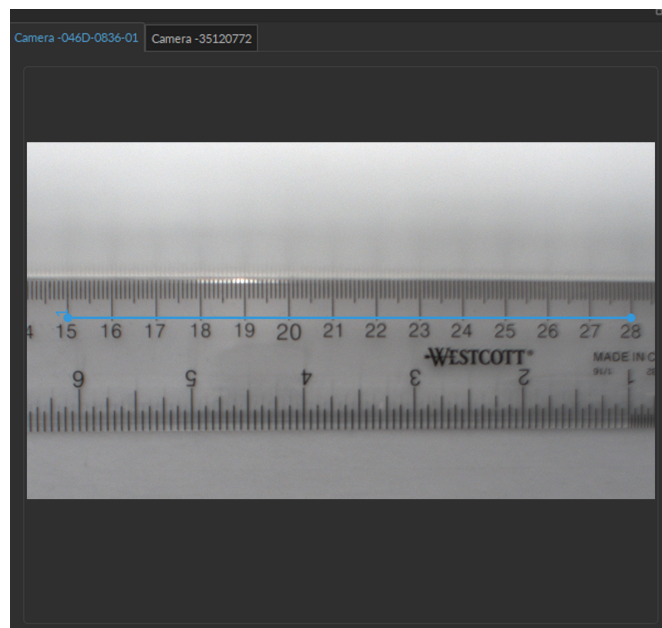

Figure 11.98: Camera Module - Calibration User-defined line
- A *User Defined (Line)* - uses a user-drawn line within the image as a reference (Fig. 11.98). This line can online be horizontal or vertical. For optimal results use an object/dimension that fills most of the image.